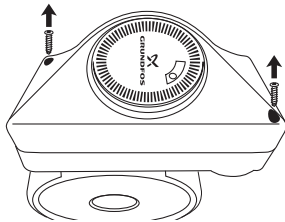

Fig. 1 Removing the two screws to loosen the old terminal box cover
2. Use a Phillips screwdriver to remove the two screws at the corners of the outside of the pump's old terminal box lid. See fig. 1.